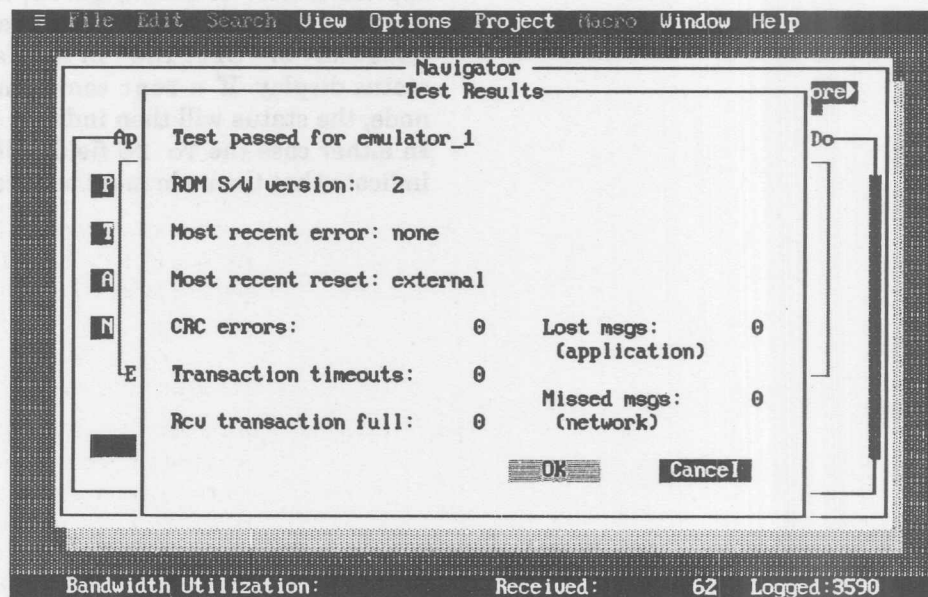

Figure 13-2. Hardware Test Results Window
- 5 Select the **Test** command button to send the *query status* network management message and report the results in the Hardware Test Results window (see figure 13-2).